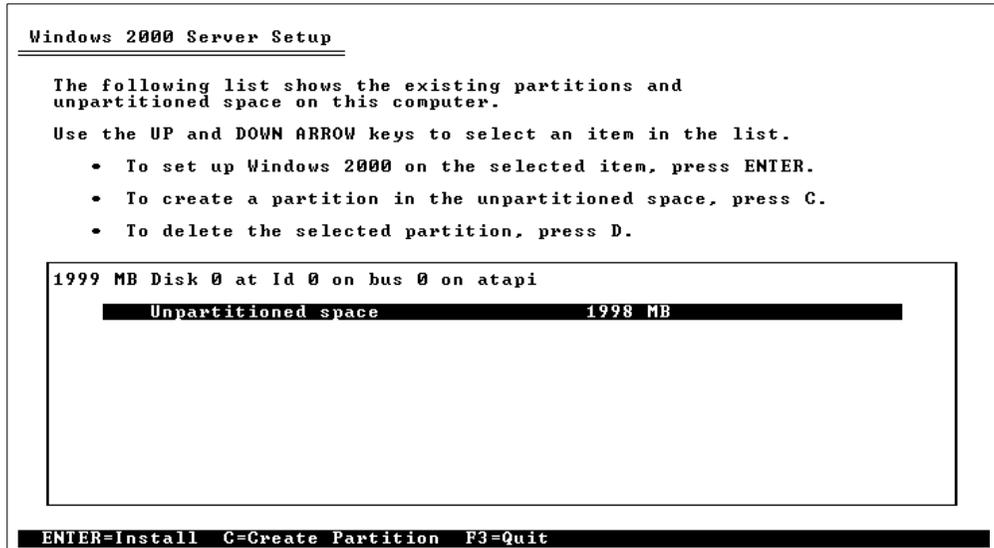

Figure 51. Creating partitions
6. The disk partition information is then shown in Figure 51. Here, you can set up and create disk partitions and file systems to suit your Windows 2000 installation.